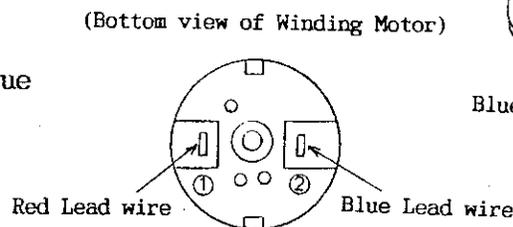

Fig.68
- a) Solder the Red and Blue Lead Wires of the Winding Motor in the positions as shown in Fig.68